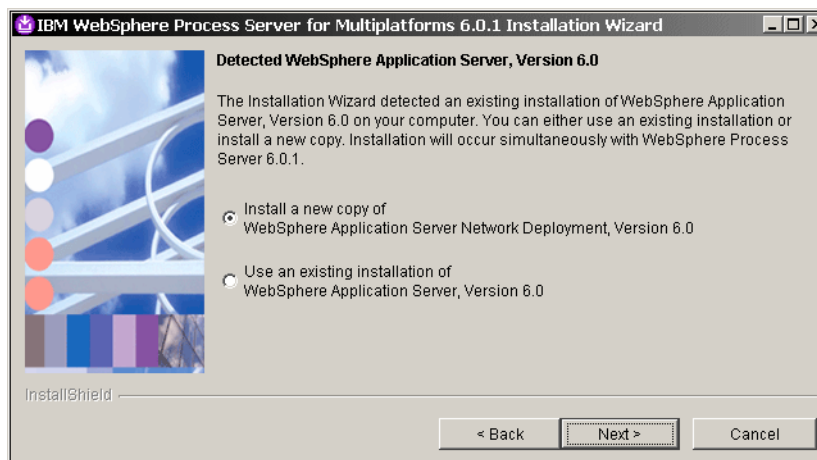

Figure A-10 WebSphere Process Server: Install new copy
- ▶ Select *Install a new copy* (Figure A-10).